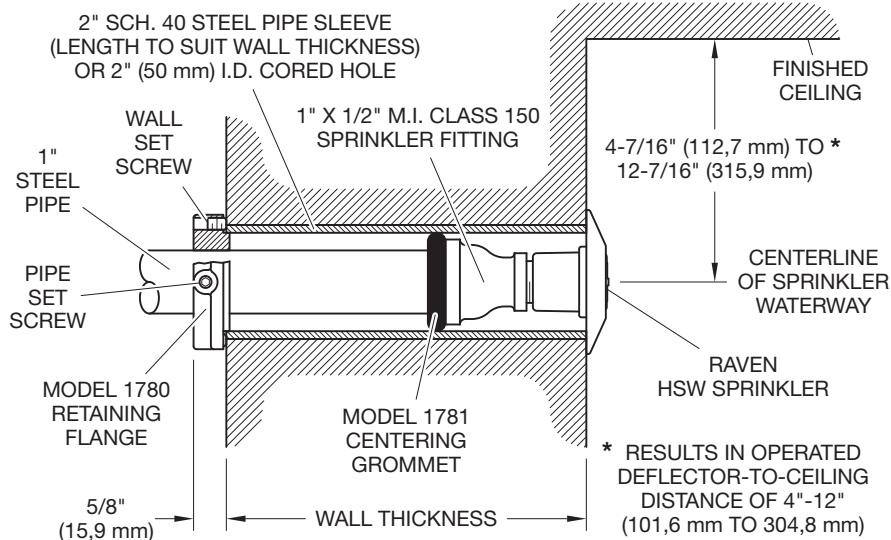

FIGURE 7
3. Centerline of the sprinkler waterway is located 7/16 inch (11,1 mm) below the deflector (Ref. Figure 7).
RAVEN Horizontal Sidewall Sprinklers (TY3381) must be installed with a deflector-to-ceiling distance of 4 to 12 inches (100 to 300 mm). To meet this requirement, the centerline of the sprinkler waterway must be located 4-7/16 to 12-7/16 inches (112,7 to 315,9 mm) below the ceiling (Ref. Figure 7).
RAVEN Extended Coverage, Horizontal Sidewall Sprinklers (TY3382) must be installed with a deflector-to-ceiling distance of 4 to 12 inches (100 to 300 mm). To meet this requirement, the centerline of the sprinkler waterway must be located 4-7/16 to 12-7/16 inches (112,7 to 315,9 mm) below the ceiling (Ref. Figure 7).
Figure 7 illustrates a technique to adjust the location of the sprinkler fitting to help assure immobility of the sprinkler fitting and to help maintain perpendicularity of the sprinkler fitting to the mounting surface.
While Figure 7 illustrates a horizontal installation, it can be applied to pendent installations.
When applied, the technique shown in Figure 7 allows the sprinkler/supply pipe to be pulled back into the mounting surface from behind the wall or above the ceiling, and the retaining flange set flush to the back of the wall or above the ceiling and secured with the retaining flange pipe set screws. This technique will help overcome problems with assuring that the escutcheon is held fast to the mounting surface (i.e., tight with no movement or gap).
It is recommended that flexible sprinkler piping is used to connect the sprinkler pipe to the supply piping to maximize installation flexibility and to ensure that the sprinkler and the escutcheon are installed properly, as shown in Figure 7.
When applied, the technique shown in Figure 7 allows the sprinkler/supply pipe to be pulled back into the mounting surface from behind the wall or above the ceiling, and the retaining flange set flush to the back of the wall or above the ceiling and secured with the retaining flange pipe set screws. Do not over-tighten the wall set screws, as over-tightening these screws may damage the sprinkler.